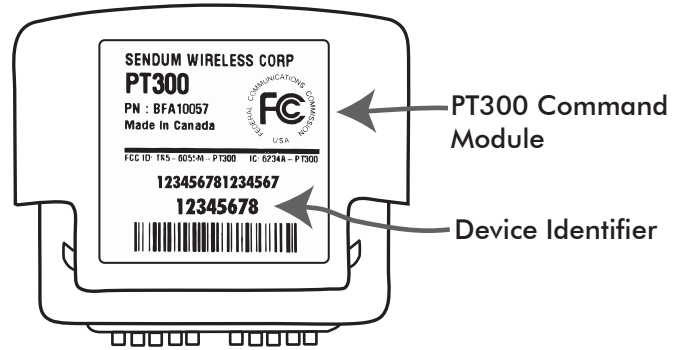

Figure 2 - Locating the PT300 Device ID
*The Device Identifier is device-specific serial number found on the back of the PT300 Command Module (see "Figure 2 - Locating the PT300 Device ID" on page 2). This identifier is also known as ESN, MEID, or IMEI.*